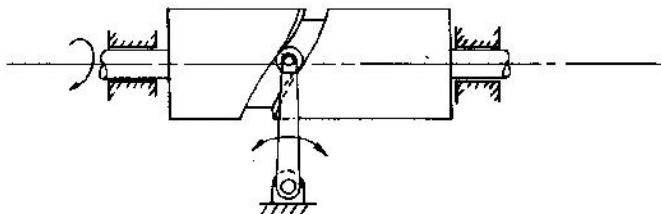

Fig.6.2 Cylindrical cam.
b) Cylindrical cam (Fig. 6.2): The cylindrical cam has a groove cut along its cylindrical surface. The roller follows the groove, and the follower moves in a plane parallel to the axis of rotation of the cylinder.